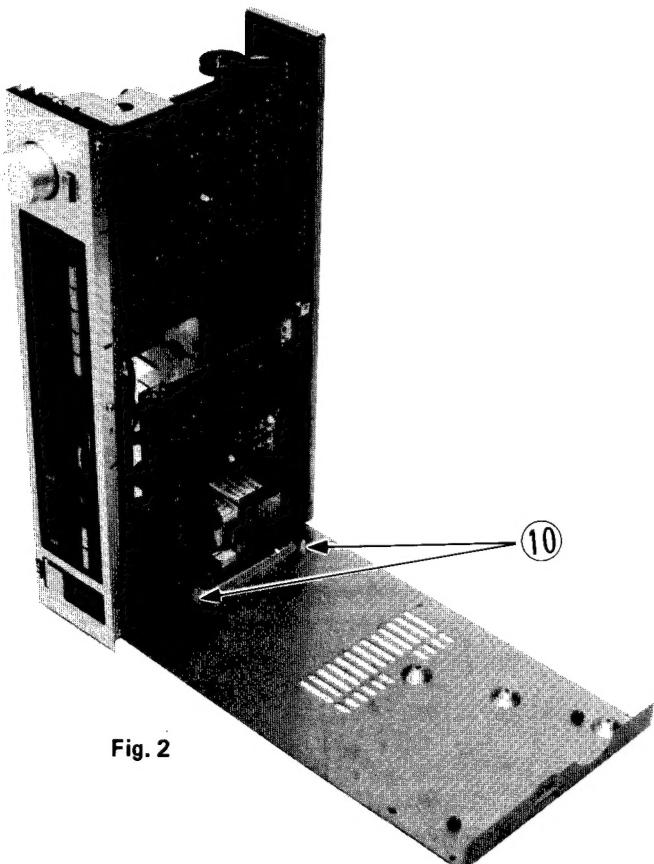

Fig. 2
- Step 4: Detach two fasteners ⑩ which retain in place the amplifier PC board (See Fig. 2).
After completing the above steps, the bottom cover can be demounted as shown in Fig. 2.